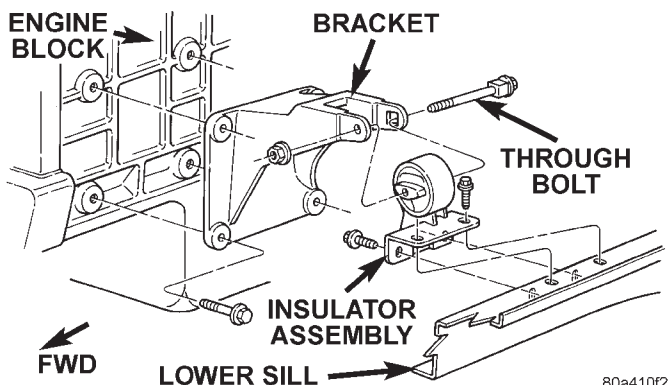

Fig. 8 Front Mount—Left Side
- (1) Disconnect negative cable from battery.
- (2) Raise the vehicle.
- (3) Support the engine.
- (4) Remove through bolt nut. DO NOT remove the through bolt (Fig. 8).
- (5) Remove insulator sill plate bolts.
- (6) Remove engine mount bracket bolts.
- (7) Raise engine up.
- (8) Remove the through bolt.
- (9) Remove insulator.
- (10) Remove engine bracket.